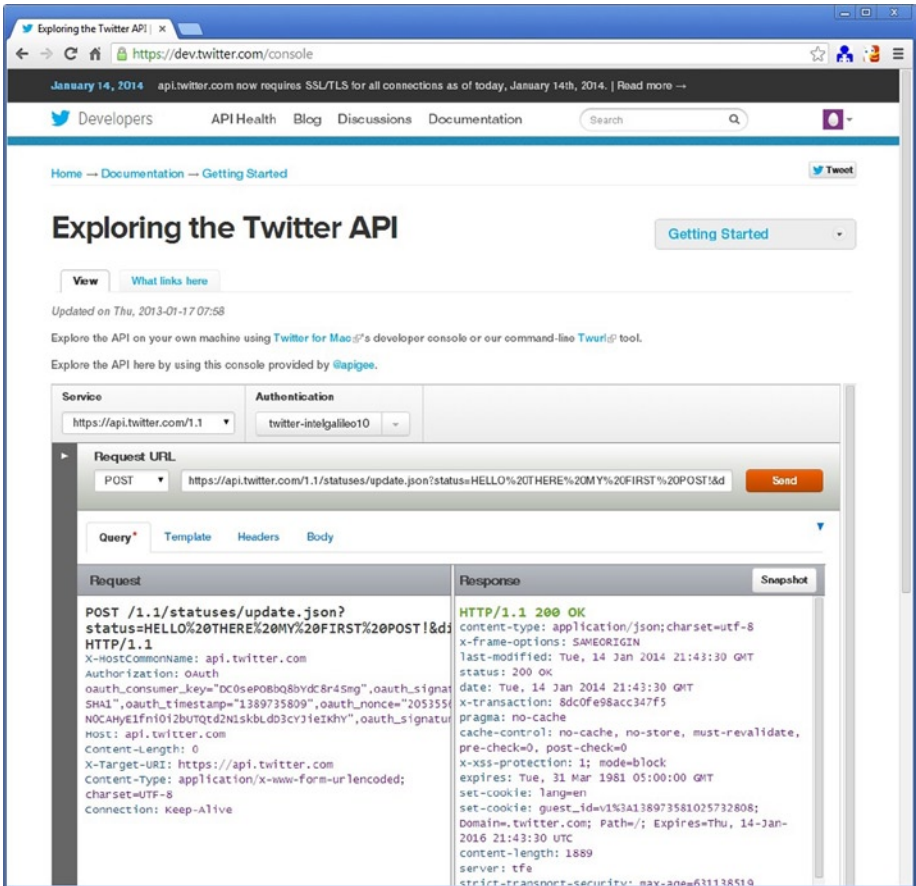

Figure 6-12. POST response with success
6. Click the Send button and you should have your status posted in your Twitter page. You should see the server response HTTP/1.1 200 OK. See Figure 6-12.